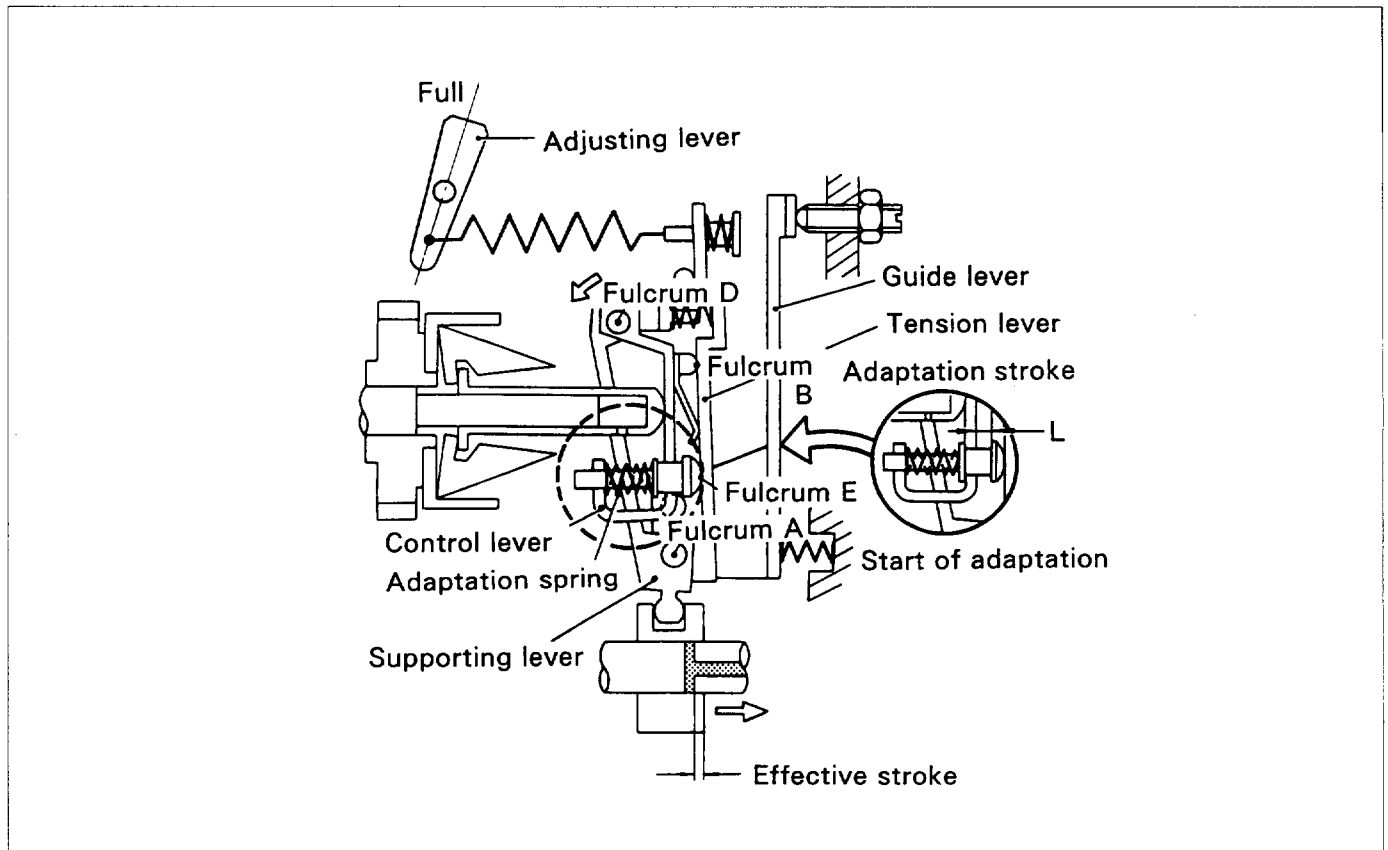

Fig.8-22 Reverse adaptation
For reverse adaptation type governor, the governor lever differs from that of the standard type governor as illustrated in Fig.8-22. The governor lever comprises a guide lever, tension lever, control lever and supporting lever, and the reverse adaptation spring is used in the control lever. The tension lever and supporting lever pivot on the shaft A that is fixed on the guide lever.
When the pump speed increases and the fly-weight's centrifugal force overcomes the reverse adaptation spring's pre load, the inner reverse adaptation spring is compressed first, then the outer reverse adaptation spring is compressed, and moving the tension lever for the reverse adaptation stroke. In the meantime, since the control lever pivots counter-clockwise on fulcrum B, and fulcrum D moves in the direction shown by the arrow in Fig.8-22, the supporting lever pivots counter-clockwise on fulcrum A causing the spill ring to move in the direction in which fuel quantity increases. The quantity of fuel increase is determined by the reverse adaptation stroke (L). (See Fig.8-22, stroke "L")